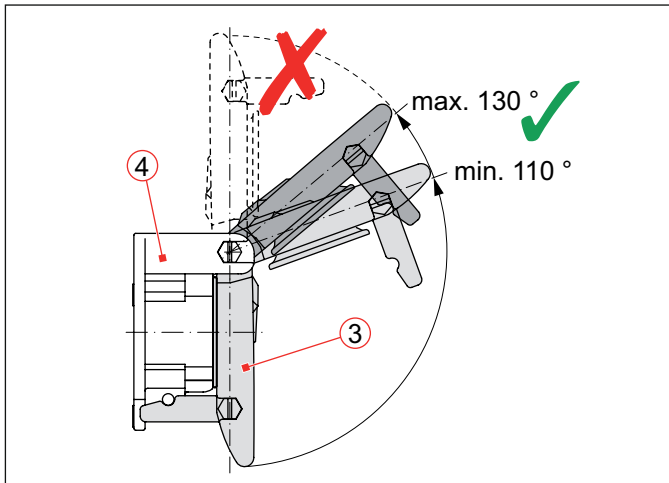

Fig. 15: Open the hinged lid (3) of the coupling receptacle (4):
- ▶ Open the hinged lid of the receptacle by an angle of at least 110° but not more than 130° (refer to *Fig. 15*). Overstretching of the hinged lid may shorten the operational life span of the torsion spring and may damage the hinge mechanism.